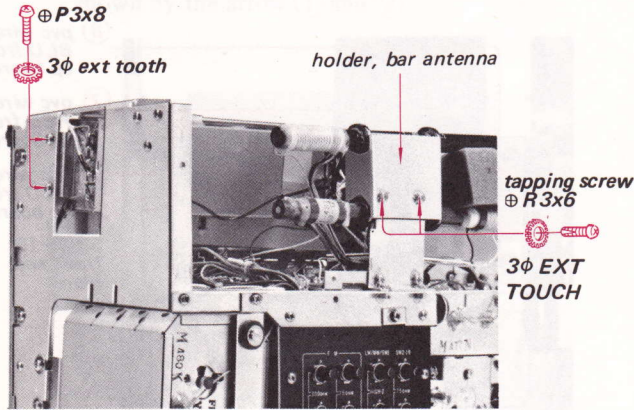

Fig. 2-10
1. Remove the four screws shown in Fig. 2-10.